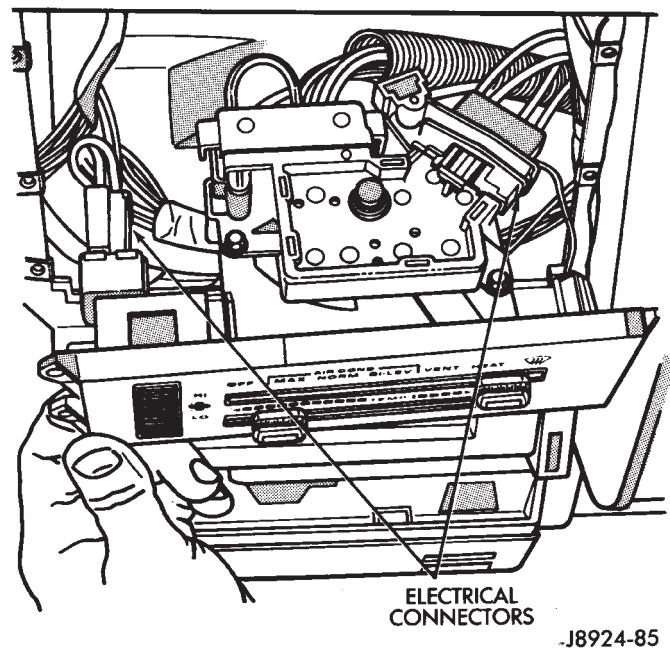

Fig. 5 Electrical Connectors
(6) Remove the electrical connectors (Fig. 5).